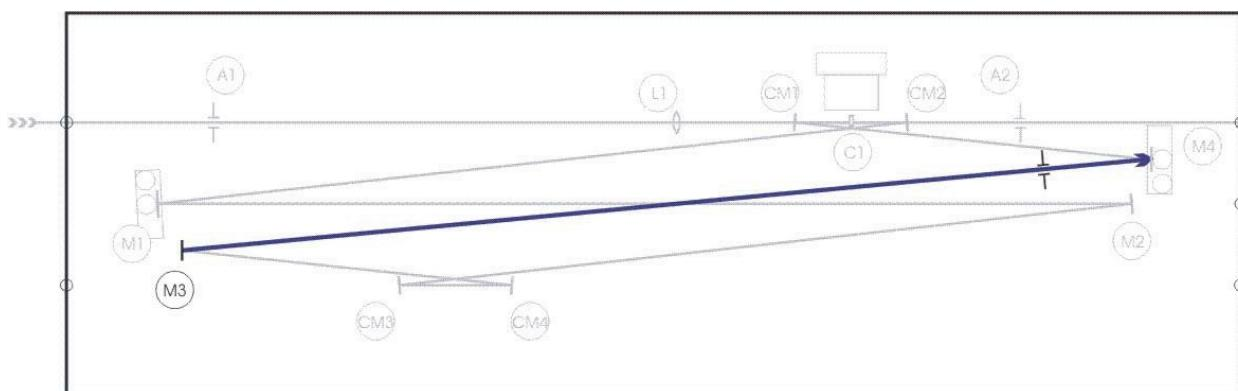

Figure 5.15.: Align M3 to center green pump spot on M4. Use plug aperture position **A10**.
- Place the plug aperture at position **A10**. Adjust M3 to center the spot on M4 (Fig. 5.15).
- Repeat the steps of the last two pictures (Fig. 5.16 and Fig. 5.15) until a good overlap at both positions of the aperture is achieved.